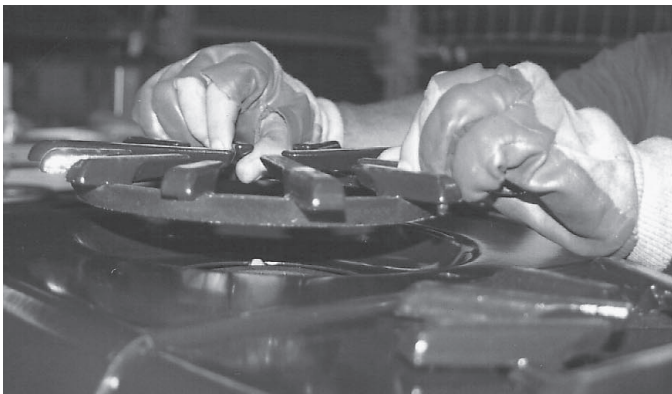

Fig. 30
5. Remove the top section burner valve knobs, top grates and aeration plate. (Figs. 30)